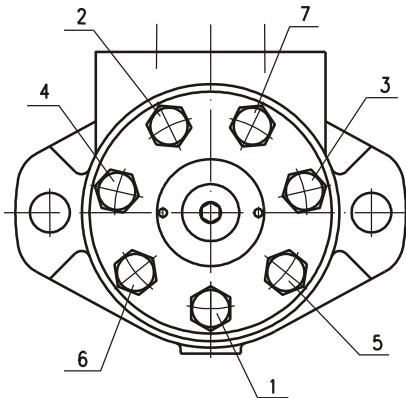

Fig.10
20. Install screws and washers in end cover. Tighten screws with 3÷3,5 daNm torque (4÷4,5 daNm for “U” versions) using a S13 torque wrench in sequence as shown in Fig.10.